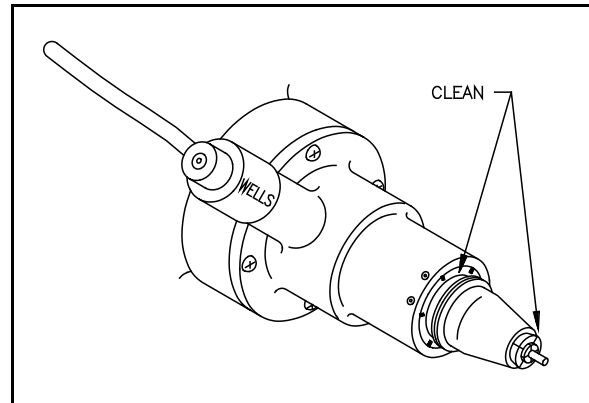

Figure 11.
- 6.10.2 Clean around the collet, collet body and threads with a small brush or rag. See Figure 11. Do not use solvent on the collets unless they are removed. Refer to section 6.2, **CLEANING THE COLLETS**.
- 6.11.2 Clean around the collet, collet body and threads with a small brush or rag. See Figure 11. Do not use solvent on the collets unless they are removed. Refer to section 6.2, CLEANING THE COLLETS. Use solvent to clean the collet shield when it is removed.